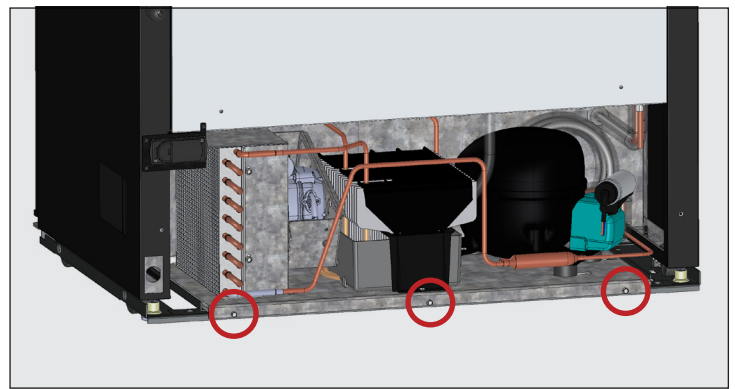

Fig. 4. Example of condenser base screw locations. Varies by model.
5. Remove the condenser base bolts. See fig. 4.